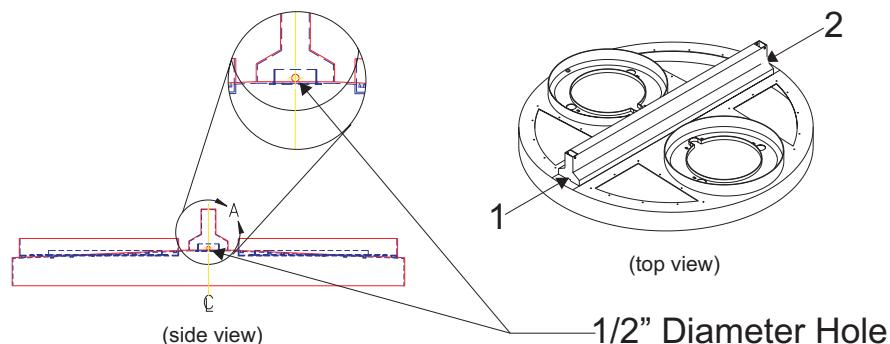

Figure 3.12-9
NOTE: If the machine has openings, as shown in figure 3.12-9, it does not need this modification.
9. Drill a 1/2" diameter hole centered on the end of the door guide shroud on the Rotary Top Cover. The hole should be as close to the intersection of the bottom of the shroud and the top cover as possible, as shown in Figure 3.12-9.
10. Repeat Step 9 on the opposite side of the Rotary Top Cover door guide shroud. See Figure 3.12-9.